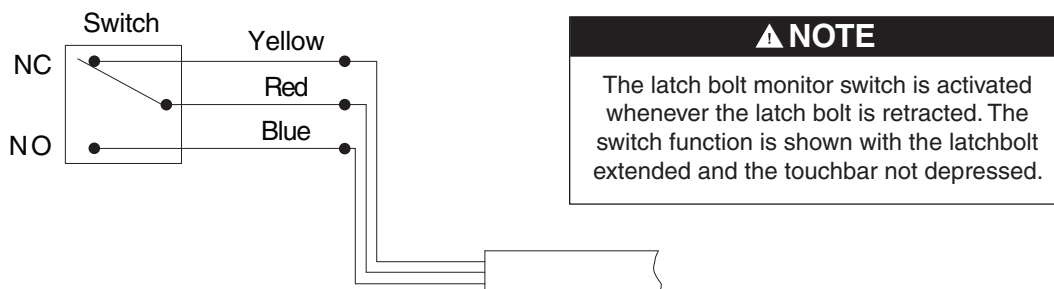

Figure 4-2
- See LX switch wiring information (Figure 4-2) for switch configuration.